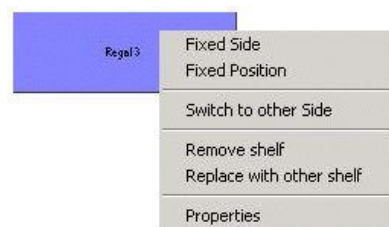
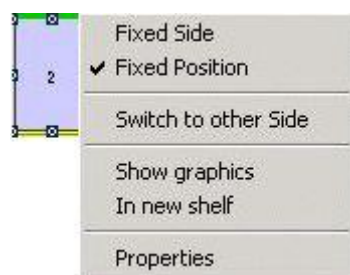

Figure 192: Shelf Context Menu
Figure 195: Loading Unit Context Menu
- You can execute the corresponding functions via either of the context menus, shelf or loading unit. *Please refer to the Figure 192 and Figure 195.*
- 5) Select *Remove shelf* in the context menu of the selected shelf. Please refer to the Figure 192.